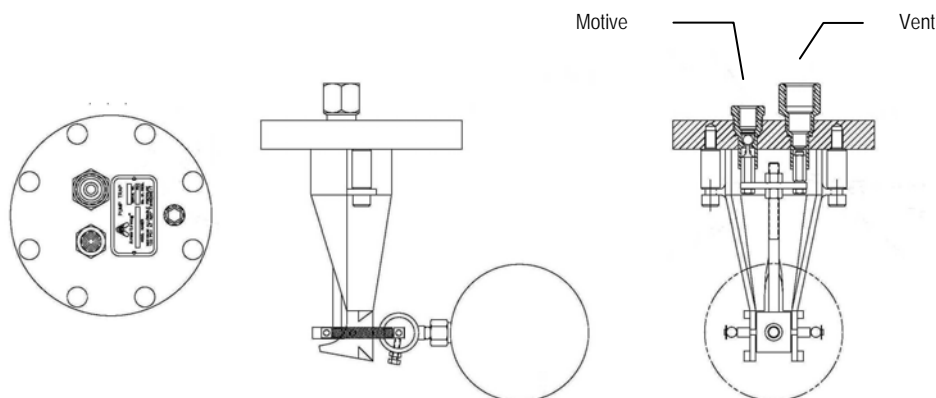

Fig.2 : EPT-400 Series Cap Assembly
3. Inspect the mechanism for freedom of movement. Remove any dirt or scale inhibiting the motion of the mechanism (see figure 2 on page 2).